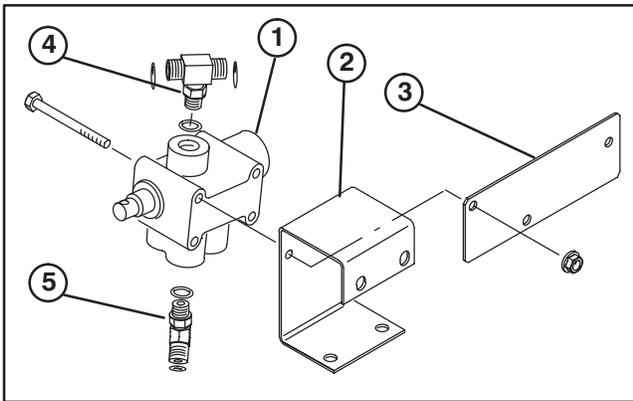

Figure 7
12. Loosely thread a tee fitting into top port of auxiliary valve (Fig. 7).
13. Loosely thread a 45° fitting into bottom port of auxiliary valve (Fig. 7).
14. Mount the control valve assembly and valve mount plate to auxiliary valve bracket with (2) 1/4–20 x 2–3/4" lg. capscrews and flange locknuts, as shown in figure 7.